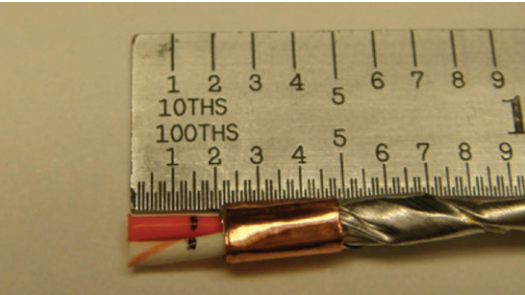

Figure 32: Marking each pair
- 9. Mark each pair 0.15 inch from the end of the cable (Figure 32).